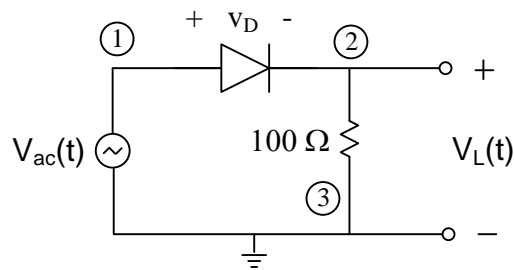

Fig. 6. Circuit for I-V Characteristic Measurement
The I-V characteristics of a diode can be displayed directly on the oscilloscope using XY mode and the circuit shown in Fig. 6. The voltage across the resistor is used as the Y input, and the voltage across the diode v_D is used as the X input. Thus a voltage $100 \cdot I_D$ will be the vertical axis, and v_D will be the horizontal axis. It must be noted that the voltage units of the vertical scale should be divided by 100 to obtain the diode current in amperes.
1. Construct the circuit shown in Fig. 6, using the 1N4006 or 1N4148 silicon diode.
- Is the current flowing in the load resistor in Fig. 6 *bidirectional* or *unidirectional*?
- For Part C, compare the ripple voltages of the following: (1) power supply with $C = 100 \mu\text{F}$, and (2) power supply with $C = 10 \mu\text{F}$.